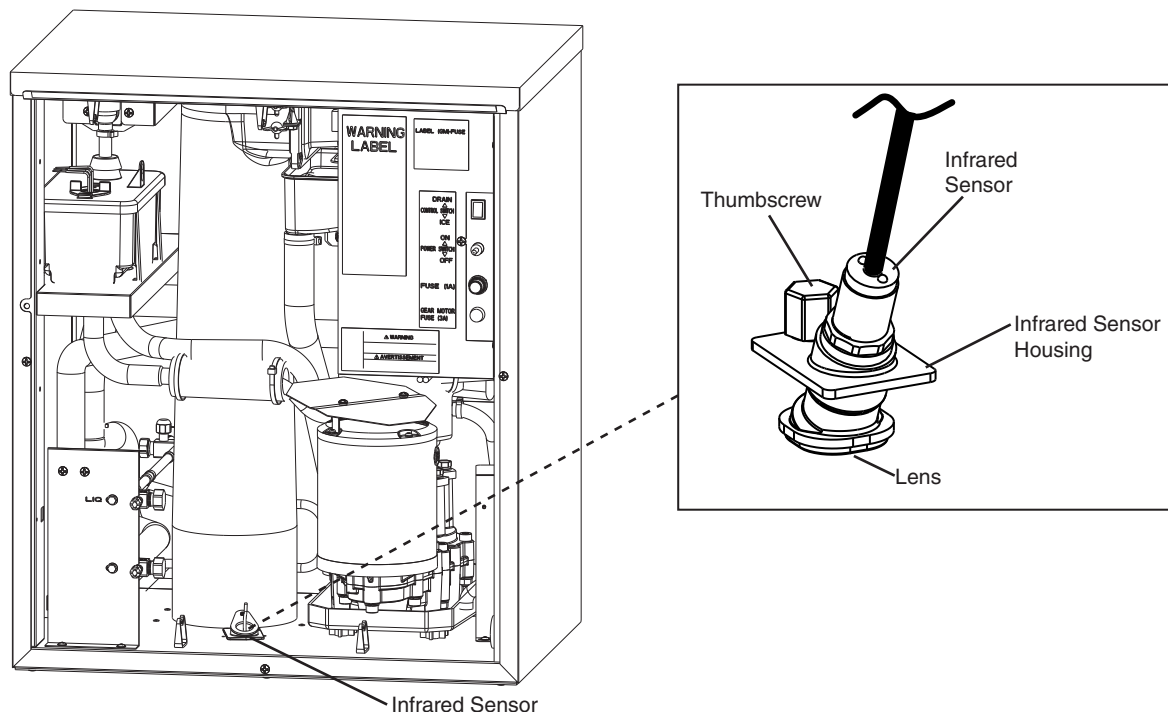

Fig. 11
- 7) "GM" LED and "COMP" LED are on. Use an object to cover the infrared sensor lens at the bottom of the icemaker. If the bottom of the icemaker is not accessible in your application, remove the thumbscrew securing the infrared sensor housing, remove the housing from the base, then cover the infrared sensor lens. See Fig. 11. The infrared sensor yellow LED turns on. The infrared sensor yellow LED flashes when ice is at the outer limit of its range and turns steady as ice nears. After the infrared sensor yellow LED turns on (flashing or steady), the infrared sensor shutdown delay timer starts (S2 dip switch 1, 2, 3; factory default is 100 sec.). "Comp" LED turns off after the infrared sensor shutdown delay timer terminates. 5 minutes later, "GM" LED turns off.